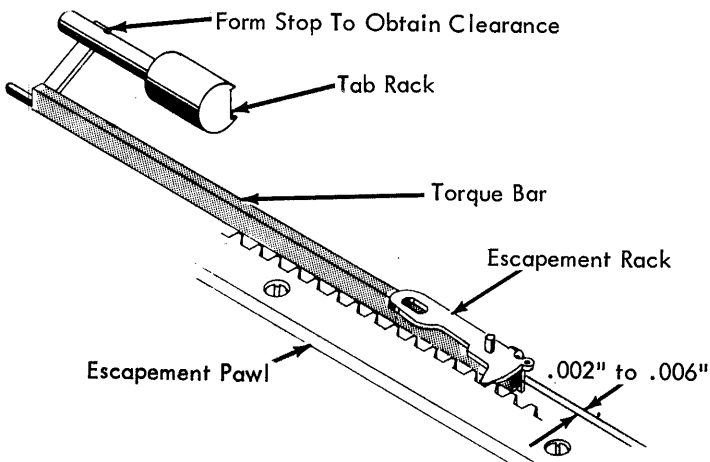

FIGURE 147. Torque Bar Stop (Early)
- b. Early - Form the torque bar stop located at the left end of the torque bar so that a clearance of .002" to .006" exists between the torque bar and the lug on the escapement pawl (Fig. 147).